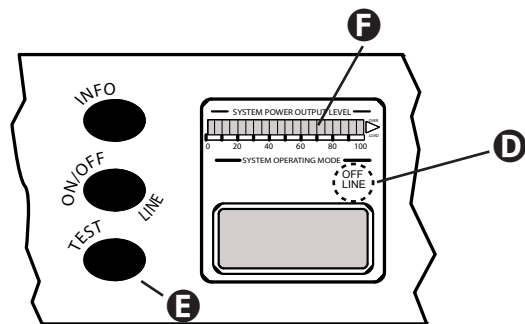

Figure 7-3 Front Panel OFFLINE LED
Step 1. For this test, the generator must be ONLINE. If the OFFLINE LED is showing yellow (D in Figure 7-3) press the ON/OFFLINE key.